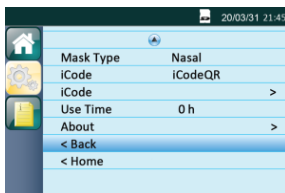

Fig. 13-8
(1) Returning to the Initial Setup Interface Move the cursor to the **Back** option by turning **the Knob** , as shown in Fig. 13-8.